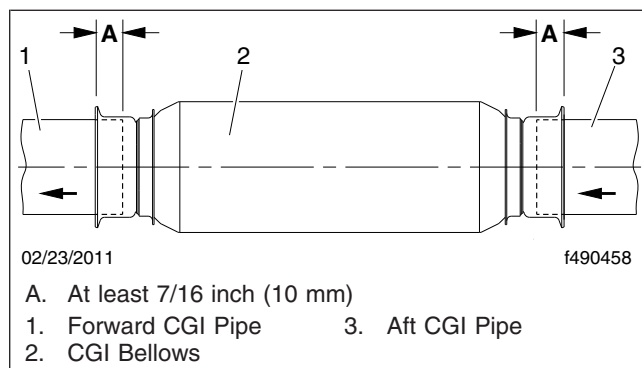

Fig. 12, CGI Bellows Installation
12. Slide the new bellows onto the aft CGI pipe as far as it will go. See Fig. 12, Ref. A. Measurement A should be at least 7/16 inch (10 mm) past the face of the flange.
16. Using the yellow marks, center the bellows between the exhaust pipes. Verify that the pipe is inserted at least 7/16 inch (10 mm) past the face of the flange. See Fig. 12, Ref. A.